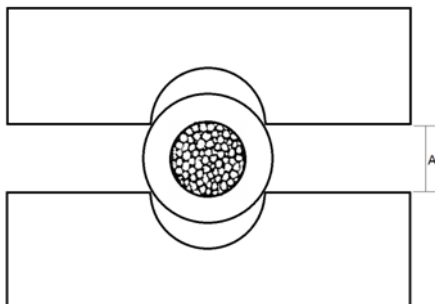

Figure 3: first contact between dies and fittings
- Close the die blocks approximately one-half of the distance between first contact and fully closed (See Figures 3 and 4).